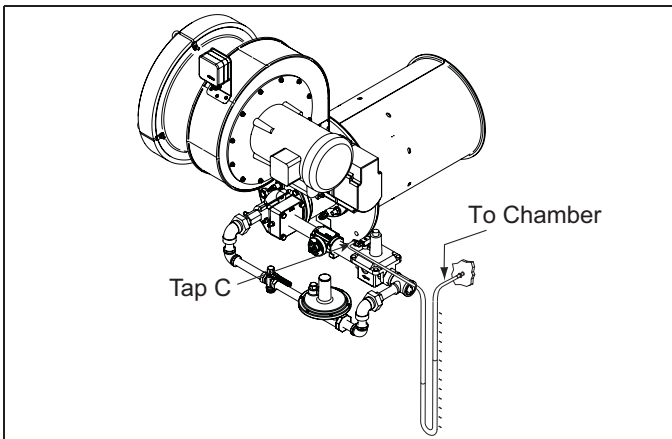

**Figure 4.1 Air Butterfly Valve Open Direction**
8. Verify the actuator opens the air butterfly valve towards the back of the burner as shown in Figure 4.1. If it doesn't, refer to the actuator's literature for instructions on how to reverse the direction.